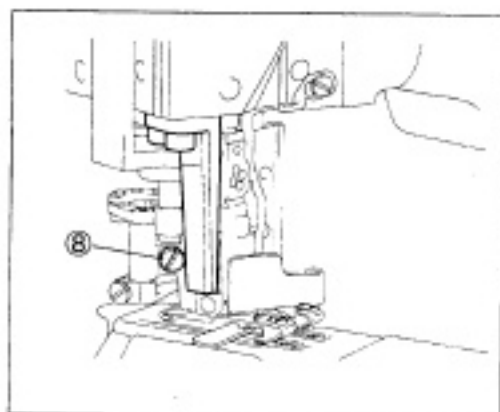

Fig. 84 图84
(3) 松开定向叉螺钉 ④, 松开上刀片、刀片夹和刀柄。
- (4) Loosen two screws ⑦ of the knife holder bracket ⑥ to remove the knife holder guide collar, c. set ⑤ and the upper knife.
- (5) Loosen the screw ⑧ on the back of the presser foot. (on the left side on "-07" and "-12" models: Fig. 84)
(4) 松开球形连杆 ⑥ 的螺钉 ⑦, 移去定向叉组件 ⑤ 和上刀。
(5) 在压脚背面松开螺钉 ⑧。(见图 84)